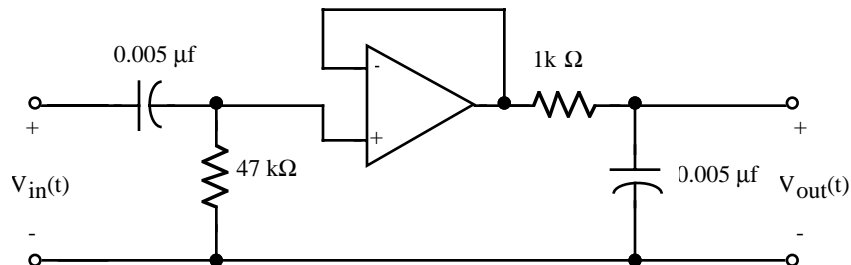
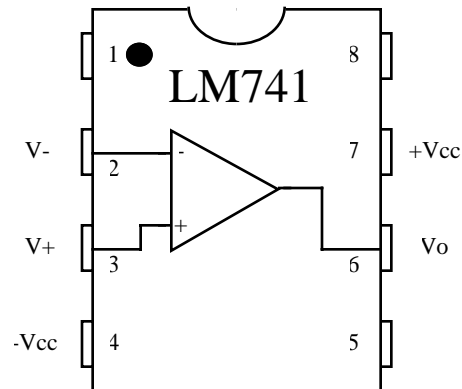

Figure 2. Band pass filter with op amp buffer.
Figure 8. Pinout for 741 op amp.
In this lab you will examine a bandpass filter where the two filter sections are isolated by inserting an op amp buffer, as shown in Figure 2.
- Find an expression for the transfer function, $H(j\omega)$, for the band pass filter shown in Figure 2. From this result, find expressions for the magnitude and angle of $H(j\omega)$.
1. Build the circuit shown in Figure 2. Use a 741 op amp and **be sure to connect the power supply**. Use $\pm 15\text{V}$ for $\pm V_{CC}$. You should check the operational status of the 741 before using it. (The pinout diagram for the 741 is shown in Figure 8.)
Band pass filter with op amp buffer (Figure 2.)